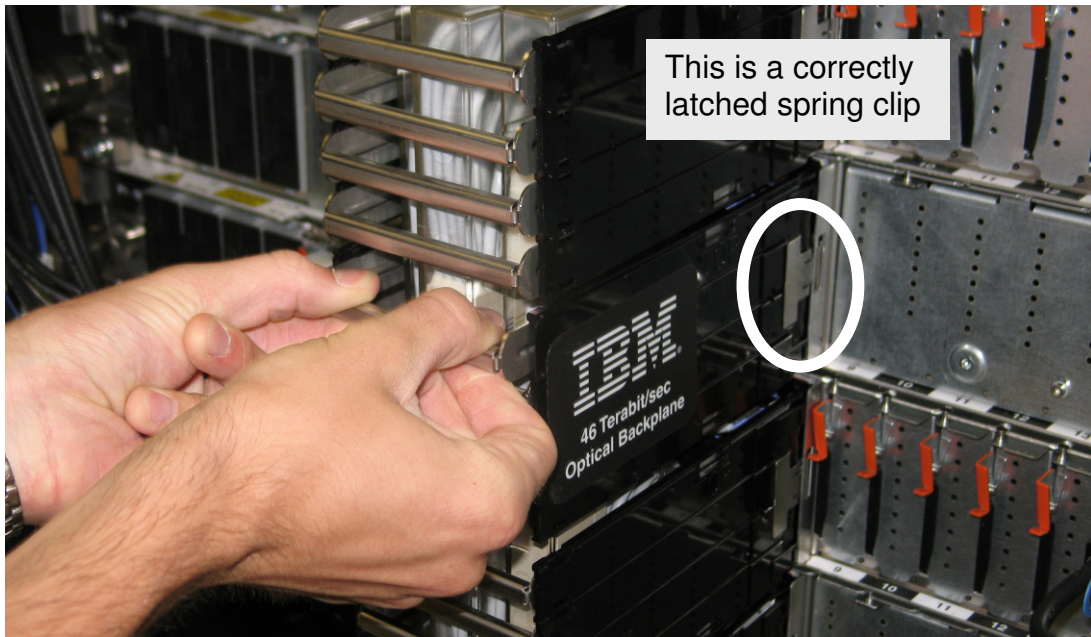

Figure 14 Optical Backplane Enclosure
STEP 23 Pull out each of the 4 actuation handles until the connectors are unplugged. It is not necessary to pull the handle out more than 1/2 inch. Figure 14 shows a method for pulling out the handles. The photo also shows the spring clips on the right side of the OBE, holding the 4 sections of the OBE to the CEC drawers.